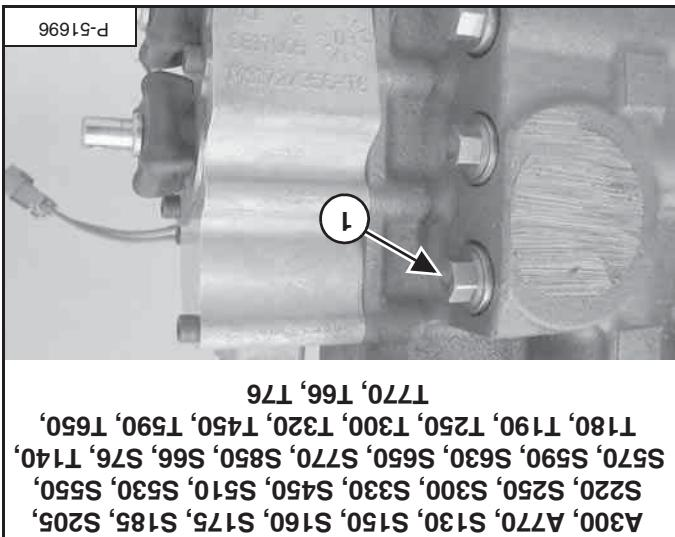

Figure 16
NOTE: Some loaders may have a port relief factory installed. To verify if your loader is or is not equipped with a port relief valve, check the hex dimension on the end of the valve (item 1) [Figure 16]. If the hex is 9/16 in, it is a port relief valve. If the hex is 15/16 in, it is a plug relief valve. If the hex is 9/16 in, it is a port relief valve (item 1). Remove the plug (item 1) [Figure 16] from the control valve. Install the port relief into the port and tighten to 52 N·m (38 - 45 ft-lb) torque.
One Piece Control Valve [Figure 16].